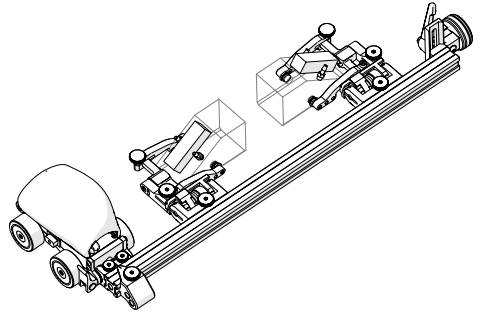

Fig. 144 - Assemble configuration
2. Assemble the appropriate configuration to the cart body (Fig. 144). Install the wedge and probes that will be used (see *Slip Joint Probe Holder* on page 19).